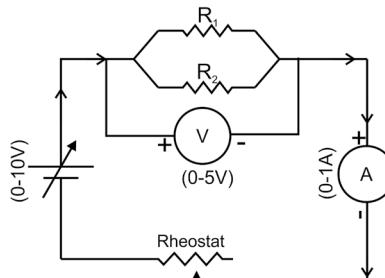

Fig P7.2
11. Connect two resistances R_1 and R_2 in parallel combination as per the circuit diagram (Fig. P7.2).